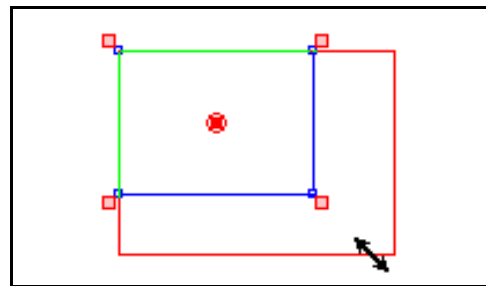

Figure 3.23 *Using the scale function*
*Figure 3.23* shows how the scale function is used to make a rectangle larger.